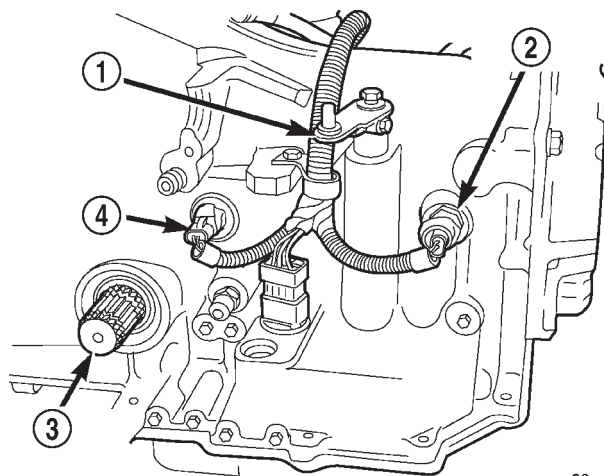
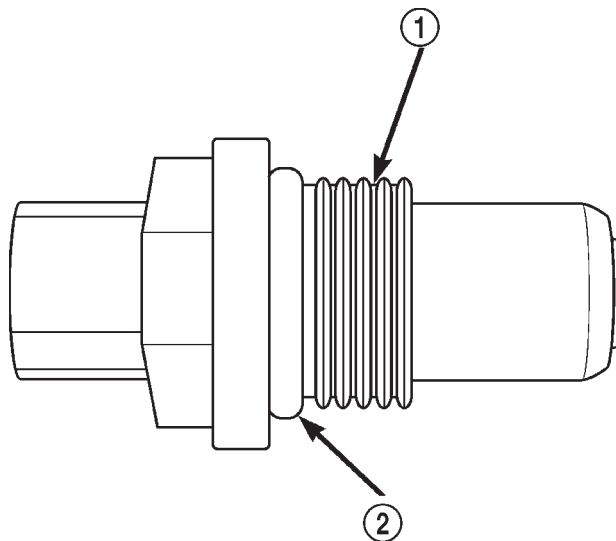

Fig. 87 Speed Sensor/Connector Location
Fig. 88 O-Ring Location
(1) Disconnect the input speed sensor connector (Fig. 87).
(2) Unscrew and remove the input speed sensor.
(3) Inspect the speed sensor o-ring and replace if necessary (Fig. 88).
(1) Verify o-ring is installed into position (Fig. 88).
(2) Install and tighten input speed sensor to 27 N·m (20 ft. lbs.) torque.
(3) Connect speed sensor connector (Fig. 87).
(4) Connect battery negative cable.